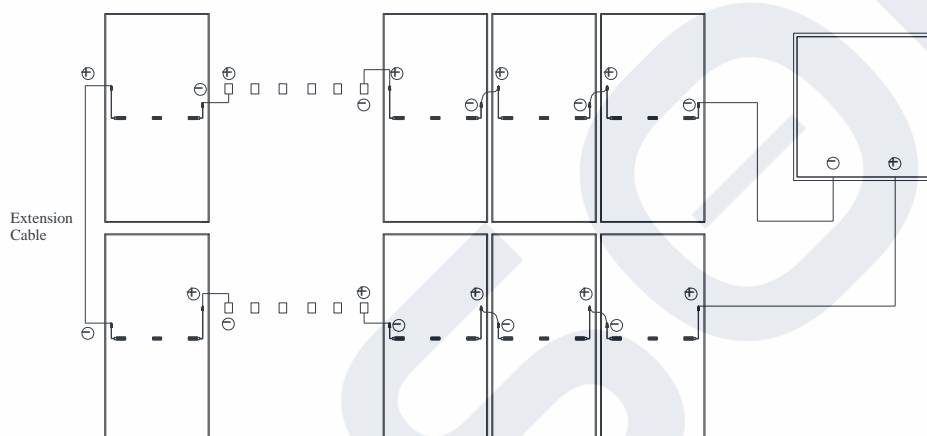
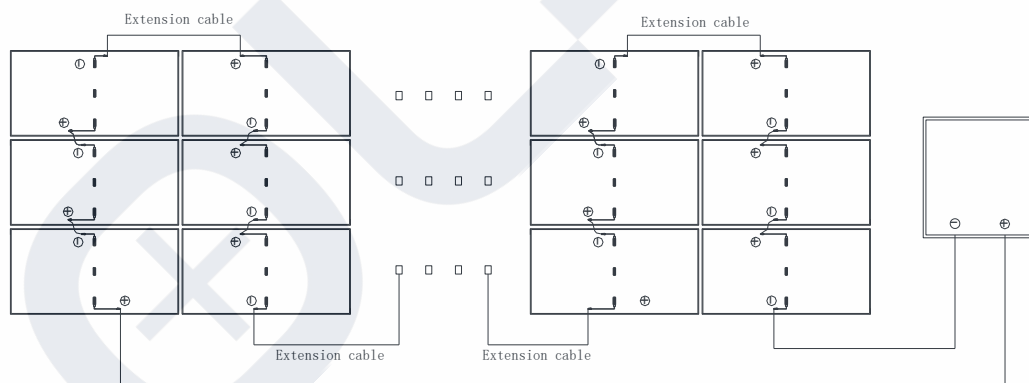

Fig. 9-1 Vertical installation of short cable modules
Fig. 9-2 Horizontal installation of short cable modules
- The recommended vertical installation connection methods for module with short cables. See Fig. 9-1. The horizontal installation connection methods see Fig. 9-2.